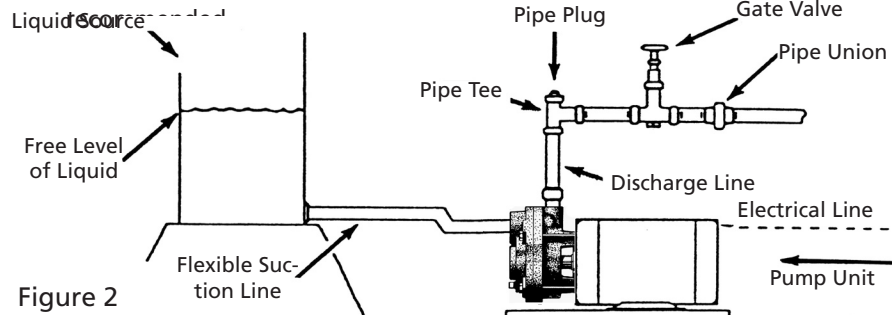

Figure 2
4. Discharge piping (plumbing parts mentioned below not furnished), See Figure 2.